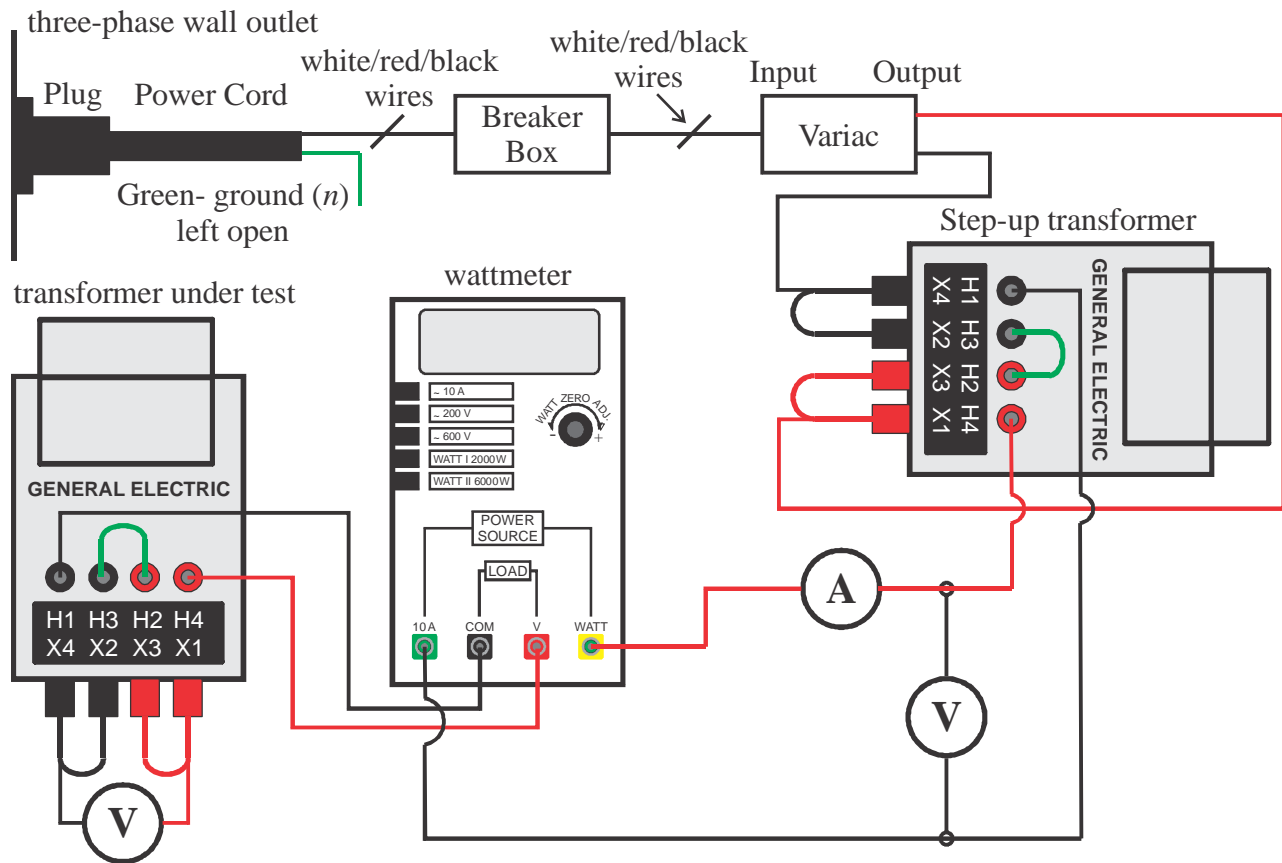

Figure 3 Connections for rated-voltage open circuit test on the high ($240 V_{\text{rms}}$) side of the transformer.
- 2) As the line-to-line three-phase wall voltages are $\sim 208 V_{\text{rms}}$, performing the rated-voltage open circuit test on the high ($240 V_{\text{rms}}$) side of the transformer will require some circuit modifications. To achieve the rated voltage, another transformer will be used to step-up the voltage coming from the variac. A block diagram of the necessary connections, including wattmeter, voltmeters, and ammeter, is shown in Fig. 3. Do **NOT** plug in the power cord until all connections have been made, wattmeter has been zeroed, variac set to zero, and three-phase breaker set to 'off'. After plugging in the three-phase power cord and setting the three-phase breaker to 'on', slowly raise the applied voltage using the variac to $\sim 240 V_{\text{rms}}$. Then, measure and record $V_{\text{oc},240}$, $I_{\text{oc},240}$, and $P_{\text{oc},240}$. In addition, measure and record $V_{\text{oc},\text{low}}$. Using the variac, reduce the applied voltage to zero, set the three-phase breaker to 'off', and unplug the power cord. Do **NOT** disconnect any wires.